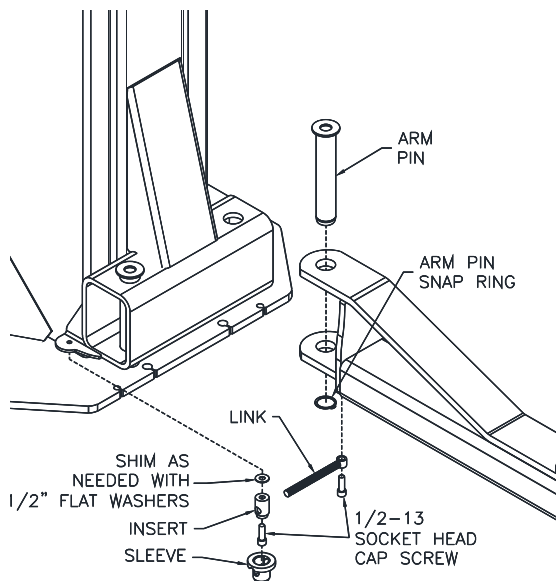

Fig. 19 – Arm Installation
- 60) Install the Arm Restraints with the 1/2”-13 Socket Head Cap Screws. Ensure that the arm restraint threads engage and disengage properly. Arm restraints should disengage when lift is fully lowered (**Fig 19**).